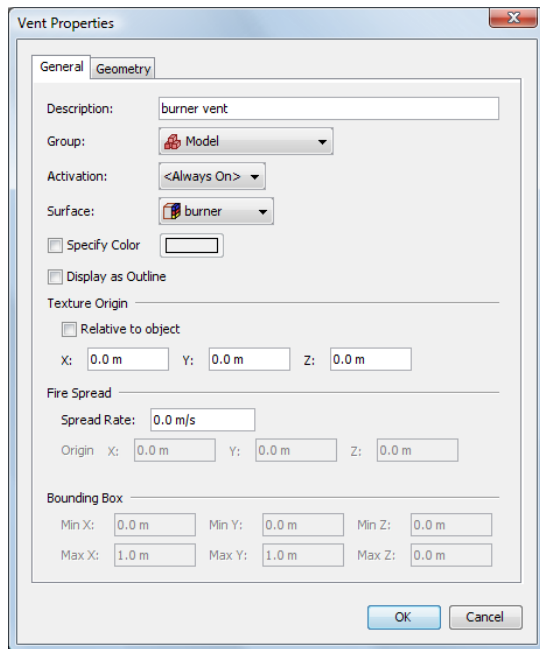

Figure 2.5. Creating the burner vent
2. In the **Description** box, type `burner vent`, Figure 2.5.